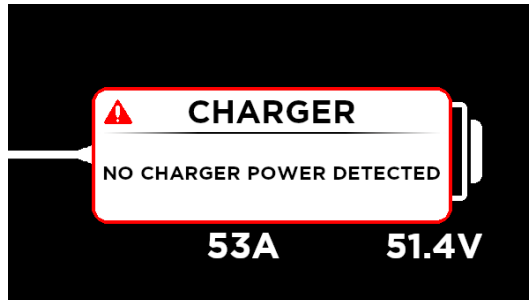

Fig. S3
- 2) A fault code “No Charger Power Detected” will come up on display screen until the charger is turned on. (Fig. S3 & S4) (If state of charge is over 95% fault code will not display) Fault code goes away once charger is plugged in and screen displays charging current, amps and display battery pack voltage. Display will automatically turn off after 15 minutes, but charger will continue to charge. To wake display while charging to see current state of charge, press the push button start and display will come back on or push again to turn display off.